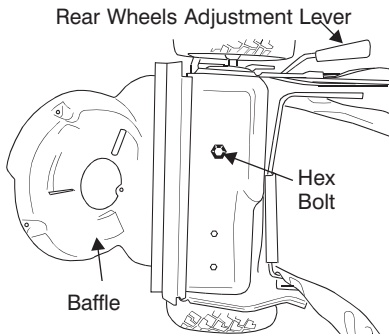

Figure 21
5. Move rear height adjuster to the highest position. See Figure 21.
8. Remove the hex bolt holding the transmission to the mower housing. See Figure 21.